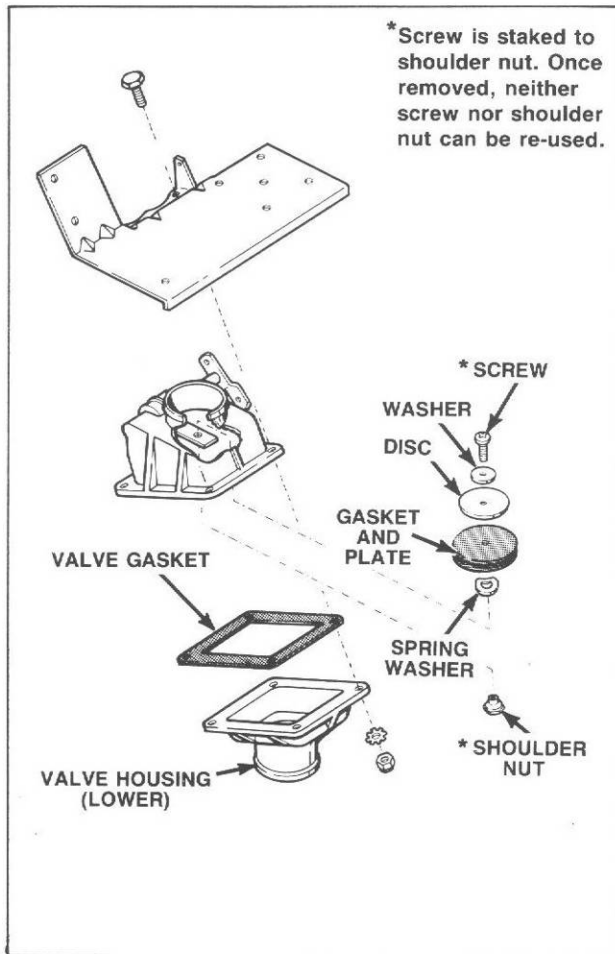

Figure 19
**NOTE:** Refer to *Figure 19* for drain valve assembly sequence.